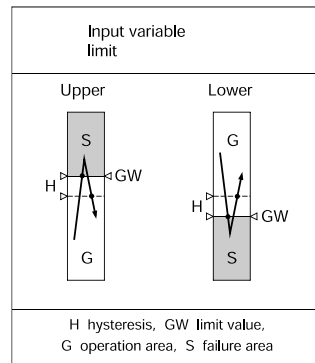

Fig. 3
- for monitoring the input variable in relation to a lower or upper limit between -10 and 110%²⁾ (see left side of Fig. 3)